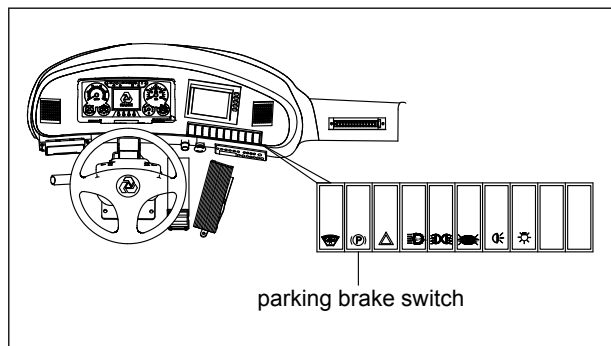

Fig 4.23
1. Make sure the parking brake control is in the 'PARK' position. (see Fig.4-23).